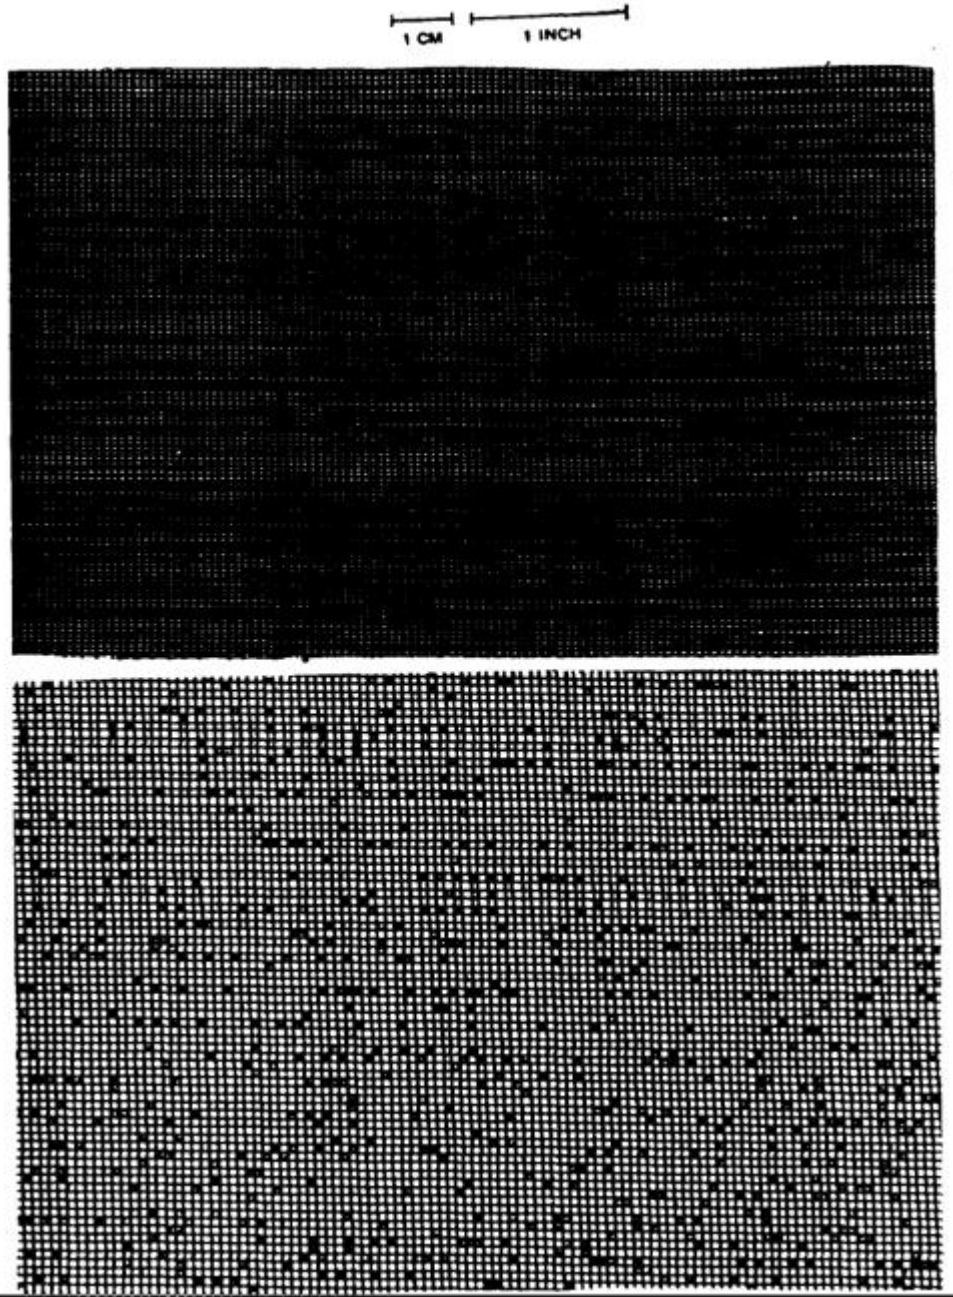

Figure 1-2: Woven Monofilament Geotextiles Having Low Percent Open Area (Top), and High Percent Open Area (Bottom).
- **Variations:** * **Monofilament:** (See Figure 1-2).